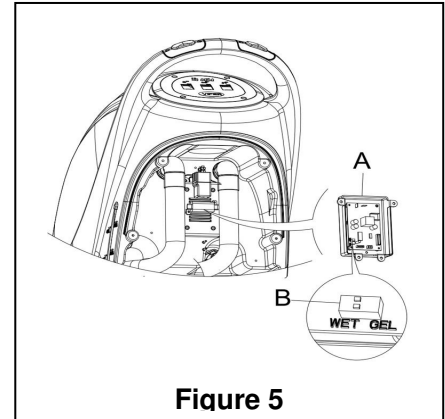

Figure 5
1. Make sure the battery connector (9) is disconnected. If the machine is based on “AGM” battery at the factory, go directly to Step 8; otherwise, complete Steps 2, 3, and 4.
2. Remove drain hose (15)
4. Take off the control cover (5), and the battery cover screws (10). Remove the screws on the PCB stand. The DIP switch (B) for setting the battery model can be seen when flipping over the PCB board. (See Figure 5)
5. Adjust the micro DIP switch (B) to the position of “WET”,